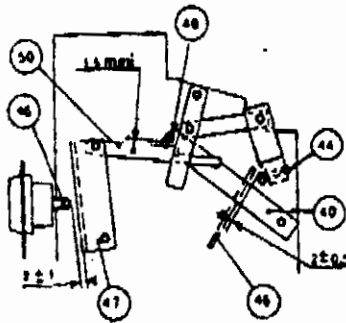

Fig. 22
A. Adjustment (Fig. 22). Place breaker in tripped position with closing springs fully charged. Adjust screw (44) to obtain 4 ± 0.5 mm (0.158 ± 0.020 inch) clearance between lever (45) and end of screw (44). Adjust screw (46) on trip button for 4 ± 0.5 mm (0.158 ± 0.020 inch) clearance between strip (47) and screw end (46).